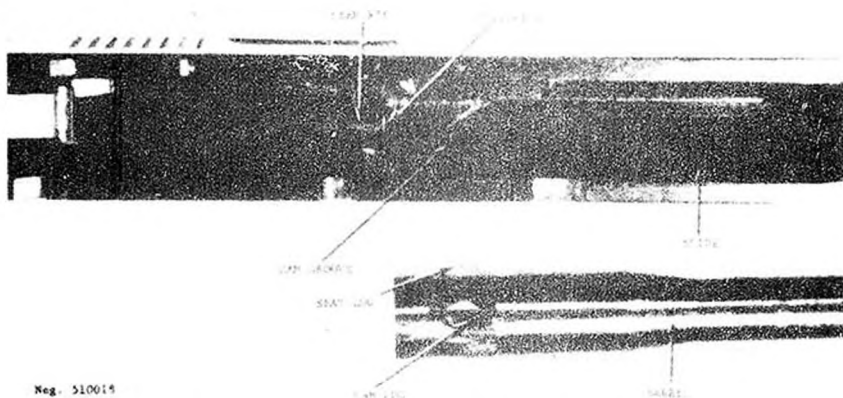

Figure 19. M.A.B. P15 barrel and slide.
d. To reassemble, insert the barrel into the slide, muzzle first, with the muzzle entering the hole in the front of the slide. Engage the cam lug with the cam groove in the top of the slide (fig 19). Seat the barrel fully into the slide and move the barrel back against the slide face (fig 19).
and fire one cartridge. The rearward thrust of the fired cartridge drives the slide rearward; however, this rearward movement is delayed by the interaction of the cam lug on the barrel with the cam groove on the slide. The barrel seat is pinned to the receiver and engages the seat lug on the barrel (fig 19). This arrangement prevents back and forth barrel movement but does allow the barrel to rotate. The cam groove in the slide thus causes the barrel to rotate as the slide starts to recoil; this rotary motion delays the slide recoil until the gas pressure from the fired cartridge has subsided to a safe level. Residual gas pressure then drives the slide fully rearward, rocking the hammer back, compressing the driving spring and depressing the trigger bar. The extractor withdraws the fired cartridge and holds it to the slide face until the cartridge strikes the ejector (fig 18). The cartridge is then expelled out the ejection port, and when the rear of the lower part of the slide strikes the barrel seat, rearward movement ceases.
b. The compressed driving spring now expands and drives the slide forward. The feed rib (fig 19) drives the top cartridge out of the magazine, up the ramp on the rear of the barrel seat, and into the barrel. The cam groove then rotates the barrel and the extractor snaps into the rim of the cartridge. The trigger bar rises into its recess, and forward movement ceases.